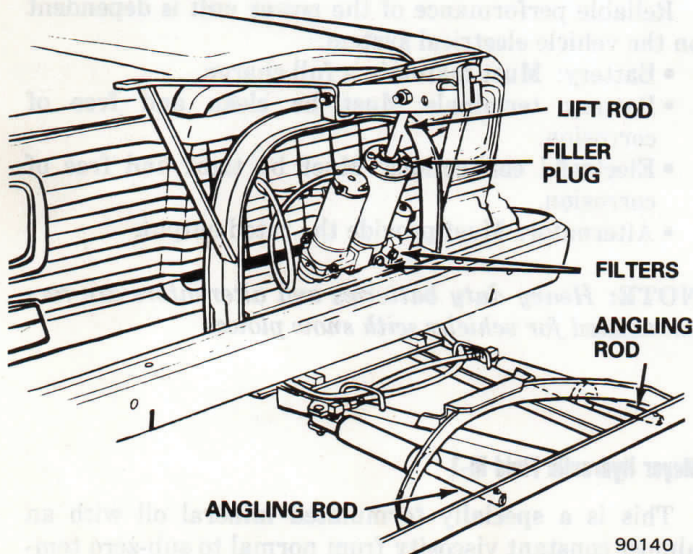

Fig. B-1 Snow Plow Servicing Areas
(1) Completely drain the hydraulic fluid (including fluid in hoses and cylinders for E-47 and E-47H models). Drain fluid **only** from filler hole (fig. B-1) by completely retracting lift rod and unbolting unit to pour fluid out, or by using a suction pump. With E-47 and E-47H models, disconnect the fittings at the power angle cylinders, completely retract the cylinder rods and purge cylinders (and hoses) of all hydraulic fluid.
(2) Remove the two screen type filters (fig. B-1) located in the base of the pump (models E-46 and E-46H have only one filter), clean with mineral spirits (or equivalent), blow out with compressed air and reinstall.
(3) Refill the power unit with the specified fluid by fully retracting the lift rod and filling reservoir to within 1/2 inch of the filler hole. With E-47 and E-47H units, fill and bleed the hoses and power angling cylinders by loosening the hydraulic fittings located on the cylinders until they leak. With power, angle the plow left and right repeatedly until the fluid flows steadily from the fittings. While doing so, constantly check the reservoir fluid level. Refill as necessary. Tighten fittings. Raise and lower the plow several times and, with the lift rod fully retracted, check fluid level. Refill as necessary and reinstall filler plug.
(4) Grease plow pivot pins both before and after plowing season.
(5) Protect chromed lift rod from rust and corrosion by fully extending it and coating it with chassis lubricant. With E-47 and E-47H units, also coat the exposed areas of the power angling rods with chassis lubricant (fig. B-1).
(6) Check all bolts, nuts, screws and other attaching hardware for security. Retighten to specified torque as
(1) Protect chromed lift rod and angling rods from rust and corrosion by fully extending them and coating with chassis lubricant (fig. B-1)
(2) Grease plow pivot pins.